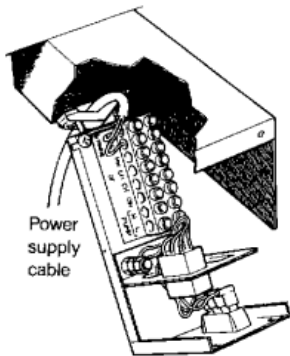

Fig. 12
2.8 Connect the Power Supply Cable - See Fig. 12.